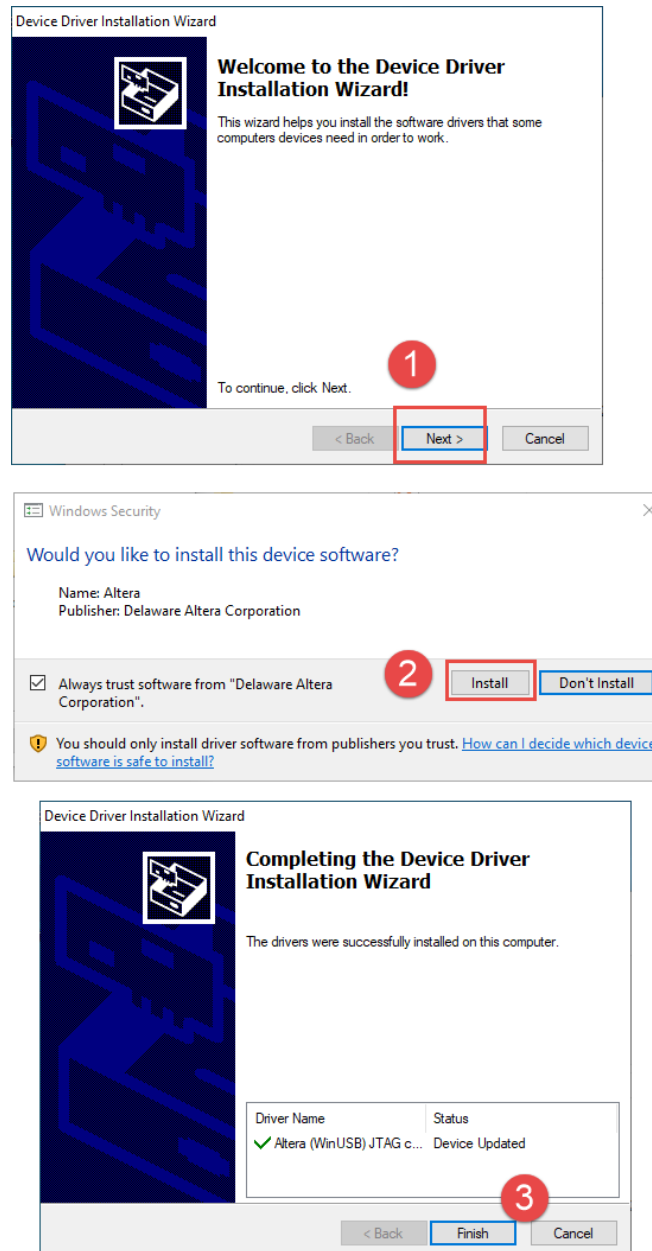

Figure 4-6 Install USB Blaster II driver
6. See **Figure 4-6** ,follow the instructions to install the USB Blaster II driver on your host PC